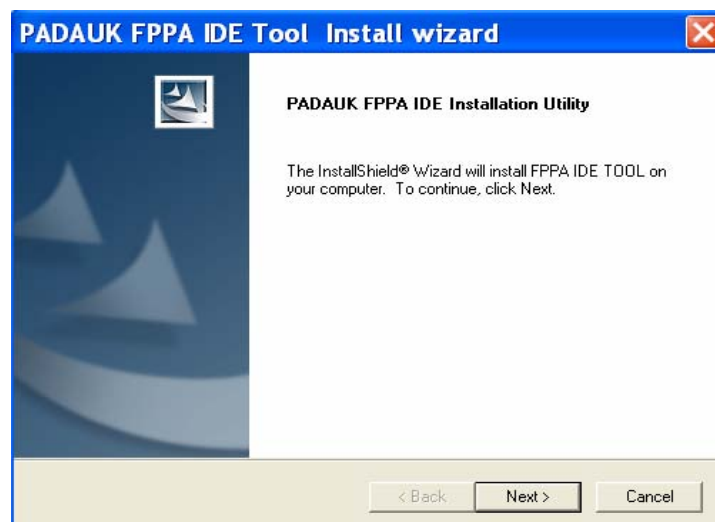

Fig.3-2 : Installation Utility
Step 2: Click **【Install Products】**, the window of Installation Utility is shown as Fig.3-2.